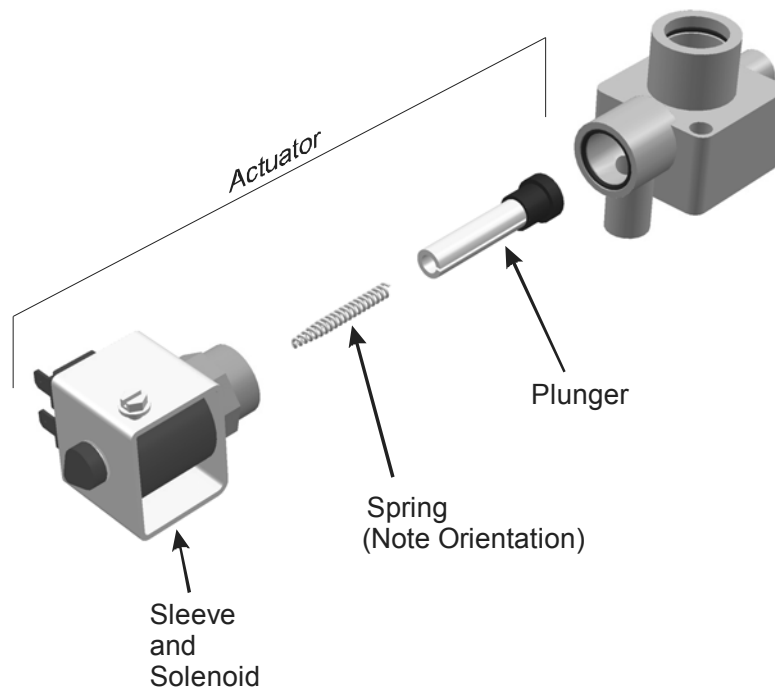

Figure 26: Drain Valve Actuator Assembly
- 7 Reassemble actuator making sure tapered end of spring is oriented as shown Figure 26. Tighten brass nut 1/4 turn past hand tight.